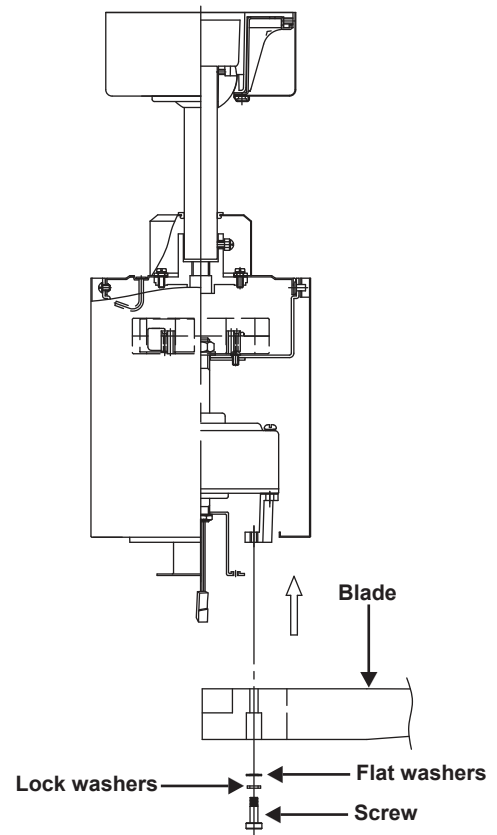

Figure 12
1. Fasten blade to motor using the flat washers, lock washers and screws supplied. (Fig. 12)